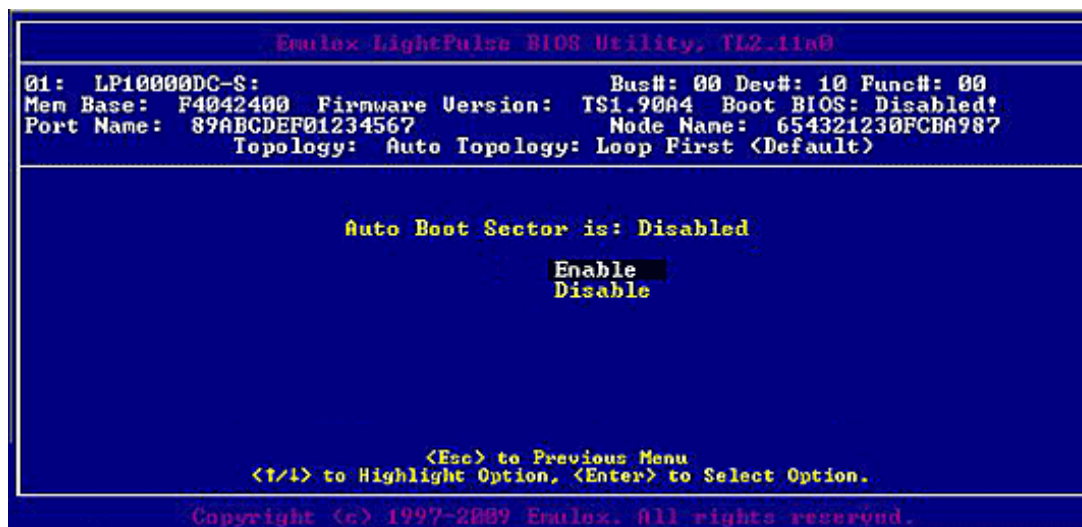

Figure 4-18 Enable or Disable Auto Sector Format Select Screen
2. Select **Enable or Disable Auto Boot Sector**. Figure 4-18 is displayed.